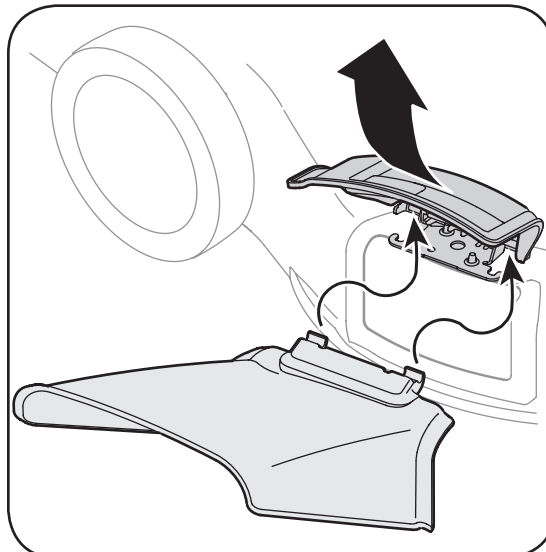

Figure 3-7: Converting to side discharge.
- b. Slide chute hooks under hinge pin on mulching plug assembly. Lower mulching plug. See Figure 3-7. Do not remove side mulching plug at any time, even when you are not mulching.